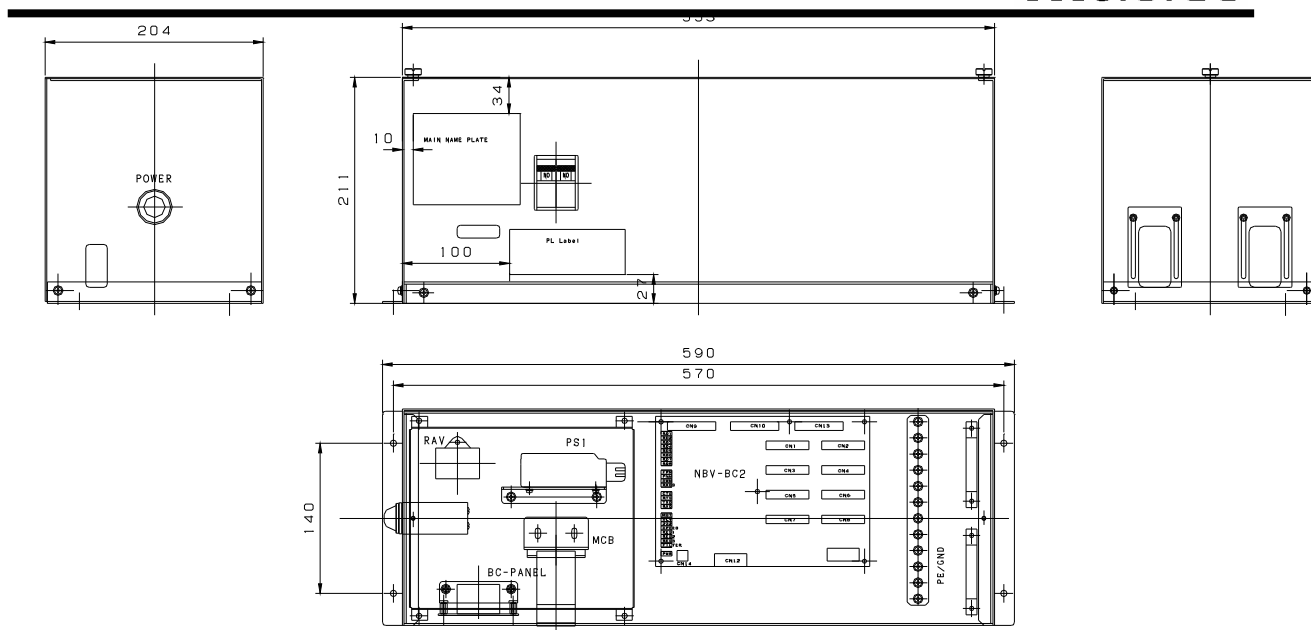

Fig. 11 For example the outward form of the CMC-BC unit
- A) After confirming that the CMC-BC board's CPM is OFF (see Fig. 11), check for short circuit and earth ground fault on the secondary side of the CPM. (Make sure you confirm that the AC power voltage is zero V before measuring the resistance. Since the primary side of the CPM is connected to the indicator lamps, short circuit check should show 3 - 4KΩ. The ground fault shall be open.)